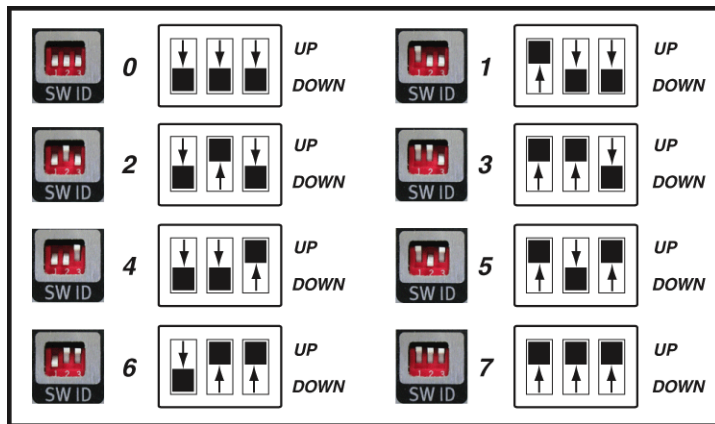

Figure 2 ISS DIP Switch
- 2 Select and record the **DIP switch position** (Figure 2 and Table 6) to be assigned to the ISS.